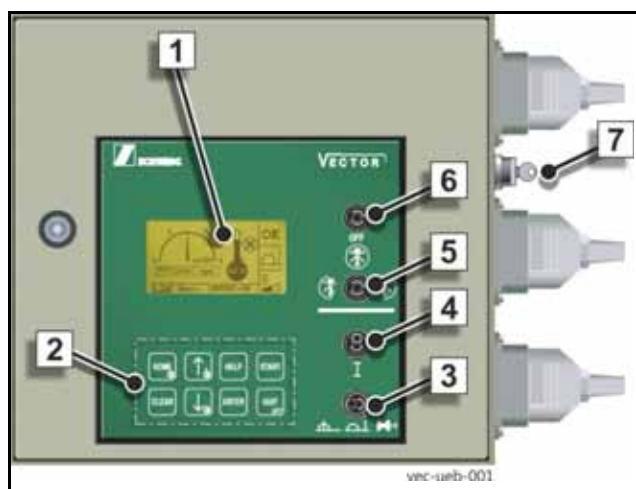

Fig. 222
- Switch the key-operated switch (7) (**Fig. 222**) to position "I".